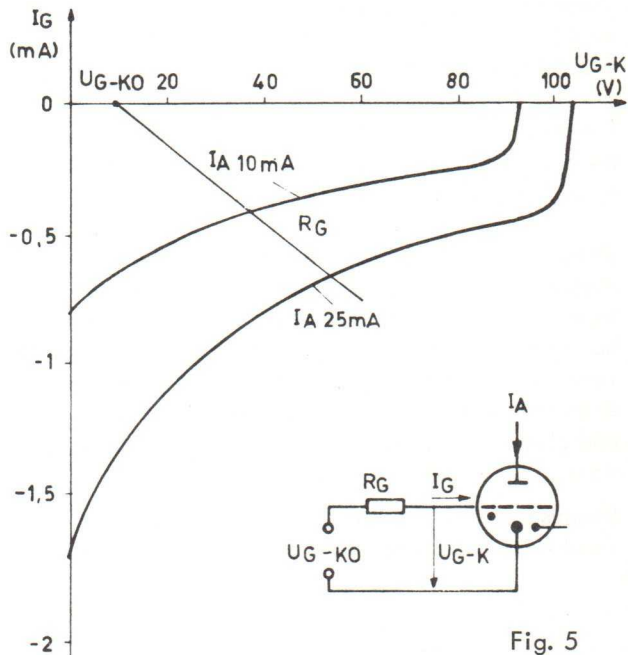

Fig. 5
b) When the anode gap is fired, the grid acts as a probe in the main discharge. The probe characteristic in figure 5 shows the relation between the voltage on the grid (U_{G-K}) and the grid current for two different values of the anode current (tube type GT 21).